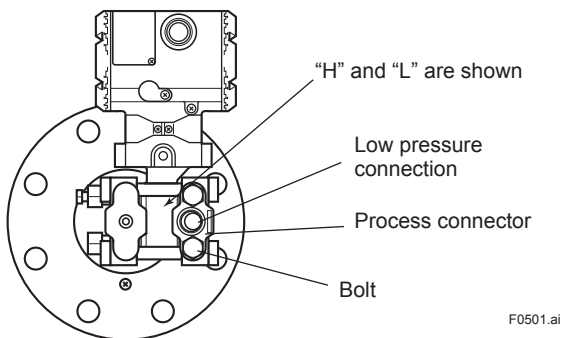

Figure 5.1 “H” and “L” Symbols on a Capsule Assembly
(1) Check the High and Low Pressure Connections on the Transmitter (Figure 5.1)